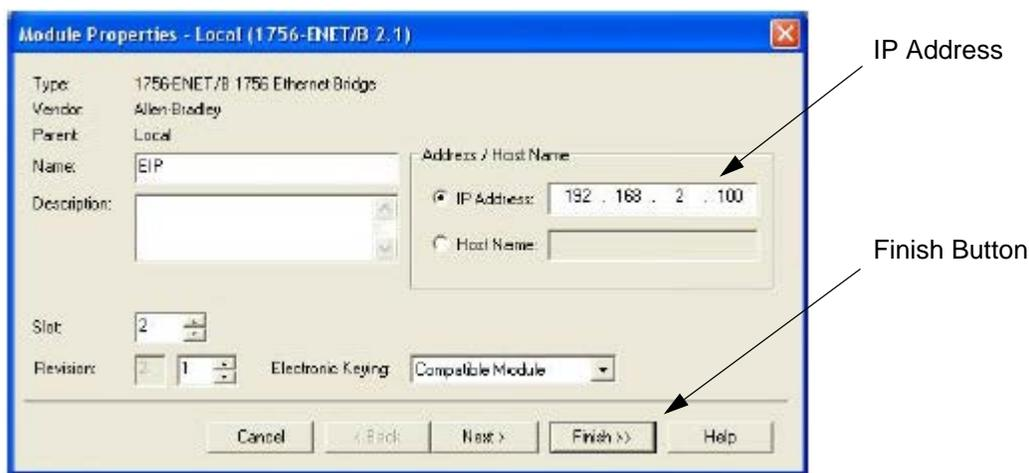

FIG. 70. Ethernet Module Properties
- c. In the Select Module Type window, choose 1756-ENET/B or 1756-ENBT/A entry. RSLogix will open the Module Properties window. See FIG. 70.
- i. Enter the IP Address and Subnet Mask. The IP Address must match the IP Address entered in the Properties window (FIG. 70).